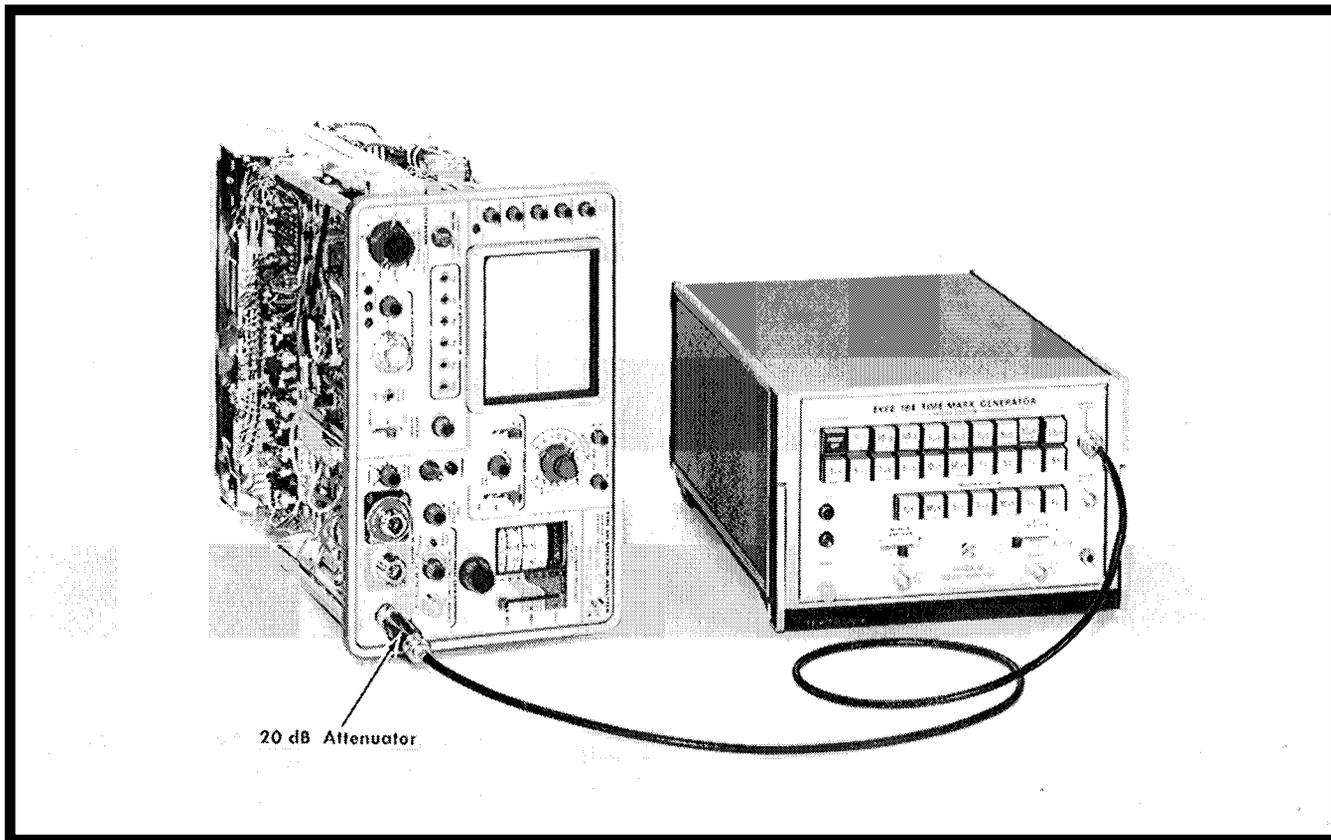

Fig. 6-29. Test equipment setup to adjust and check kHz/DIV dispersion accuracy.
a. Equipment setup is shown in Fig. 6-29.